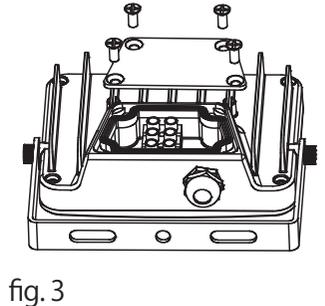

fig. 3
3. Loosen the 4 screws (fig.3) and remove the cover. Loosen the union nut of the cable gland.